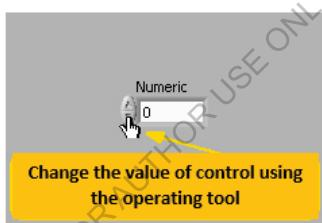

Figure 2.23: Change the value of control using the operating tool
- Shares can be used by the Operating Tool as shown in figure 2.23.